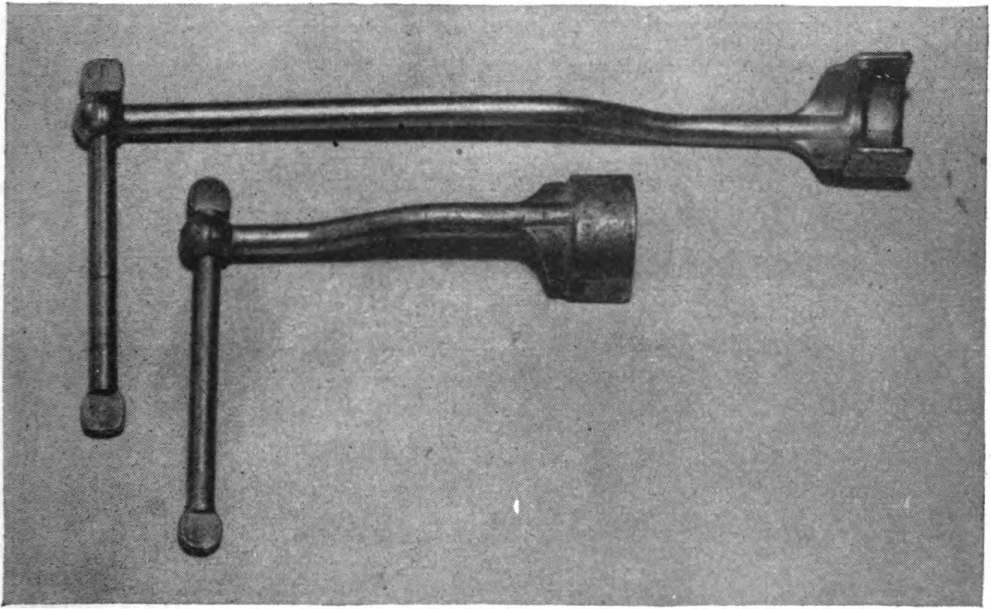

Figure 29. Spark-plug elbow wrenches.
*i.* SPARK-PLUG ELBOW WRENCH. (1) A spark-plug elbow wrench is shaped like an open-end wrench with the handle at  $90^\circ$  to the head of the wrench. The handle is fastened permanently to the wrench and may be either long or short. (See fig. 29.)
(2) This wrench is used to fasten the lead wires to the spark plugs. An ordinary open-end wrench cannot always be used because of lack